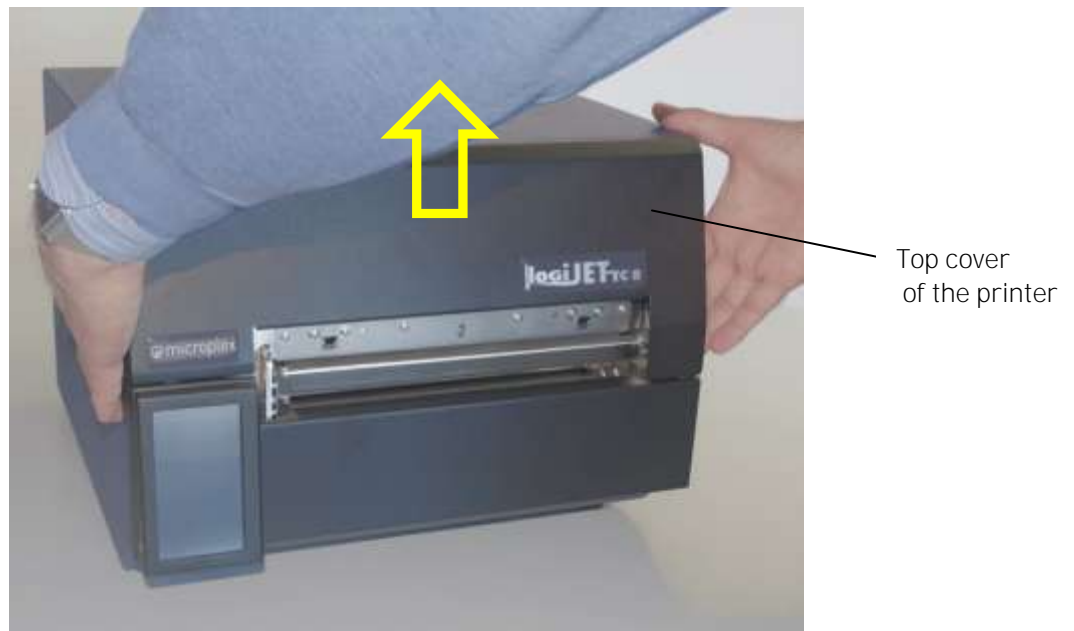

Fig. 5.1.1.a Opening the printer's top cover
2. Open the printer's top cover and swivel it to a vertical position (compare figure 5.1.1.a).
3. Unlock the front printhead assembly by pushing the printhead release lever and raise the printhead assembly to a vertical position (see figure 5.1.1.b).